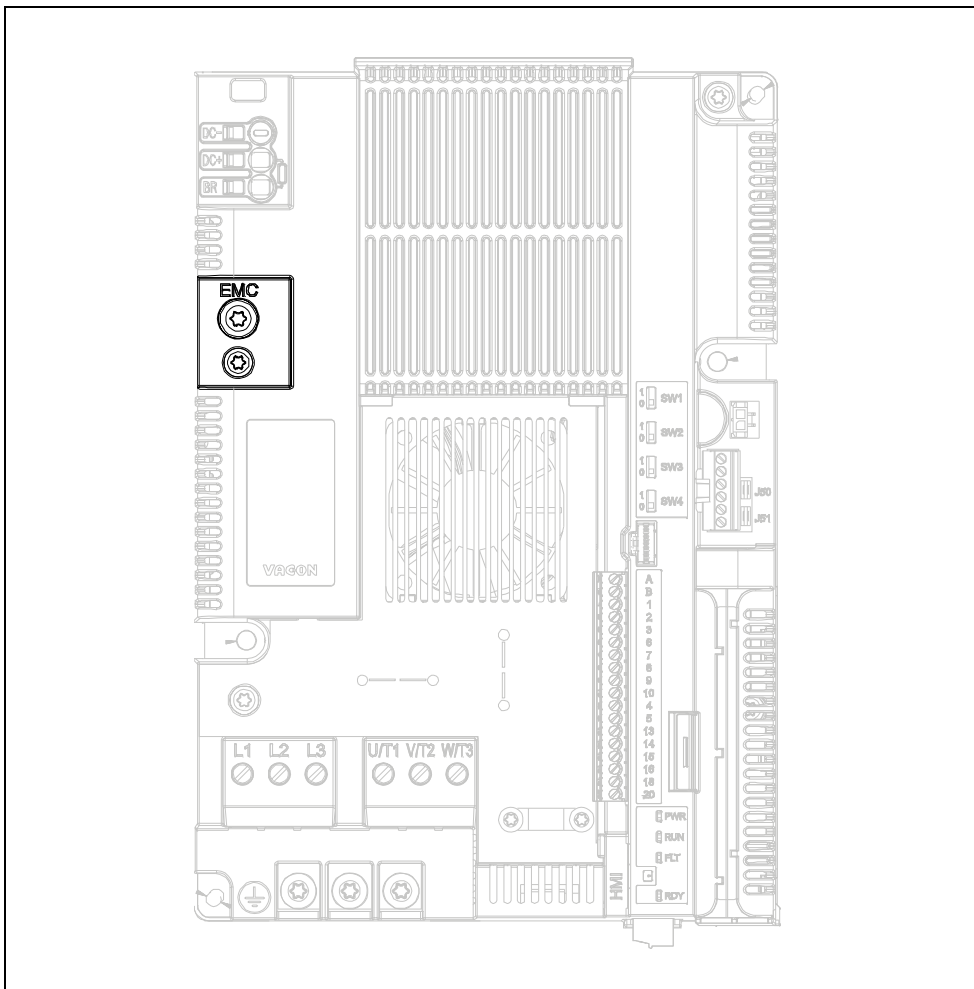

Figure 42. Changing the EMC class in the MU3 control unit.
**1** Remove the EMC screw as shown in the Figure 42.